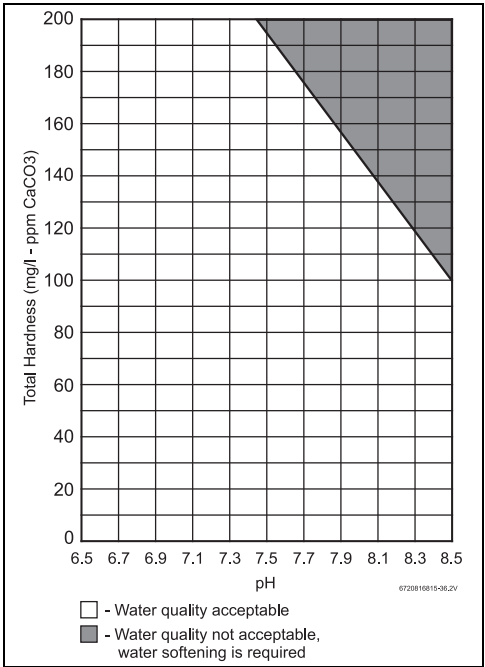

Fig. 11 Water total hardness and pH values
Water quality can have an impact on appliance longevity. Water supplied to the RTG-K-199/160N/X2 must be in accordance with table 11 and fig. 11.
For water analysis data call your local water department, or if on a well, have well water analyzed periodically. Heavy scale will form if the combination of water total hardness and pH exceeds the values specified in fig. 11 (grey area), Bradford White recommends consulting a local water treatment professional for water softening/conditioning options.
1. Total Hardness and pH maximum values must be evaluated in combination. Indicated maximum values will be reduced according to fig. 11.